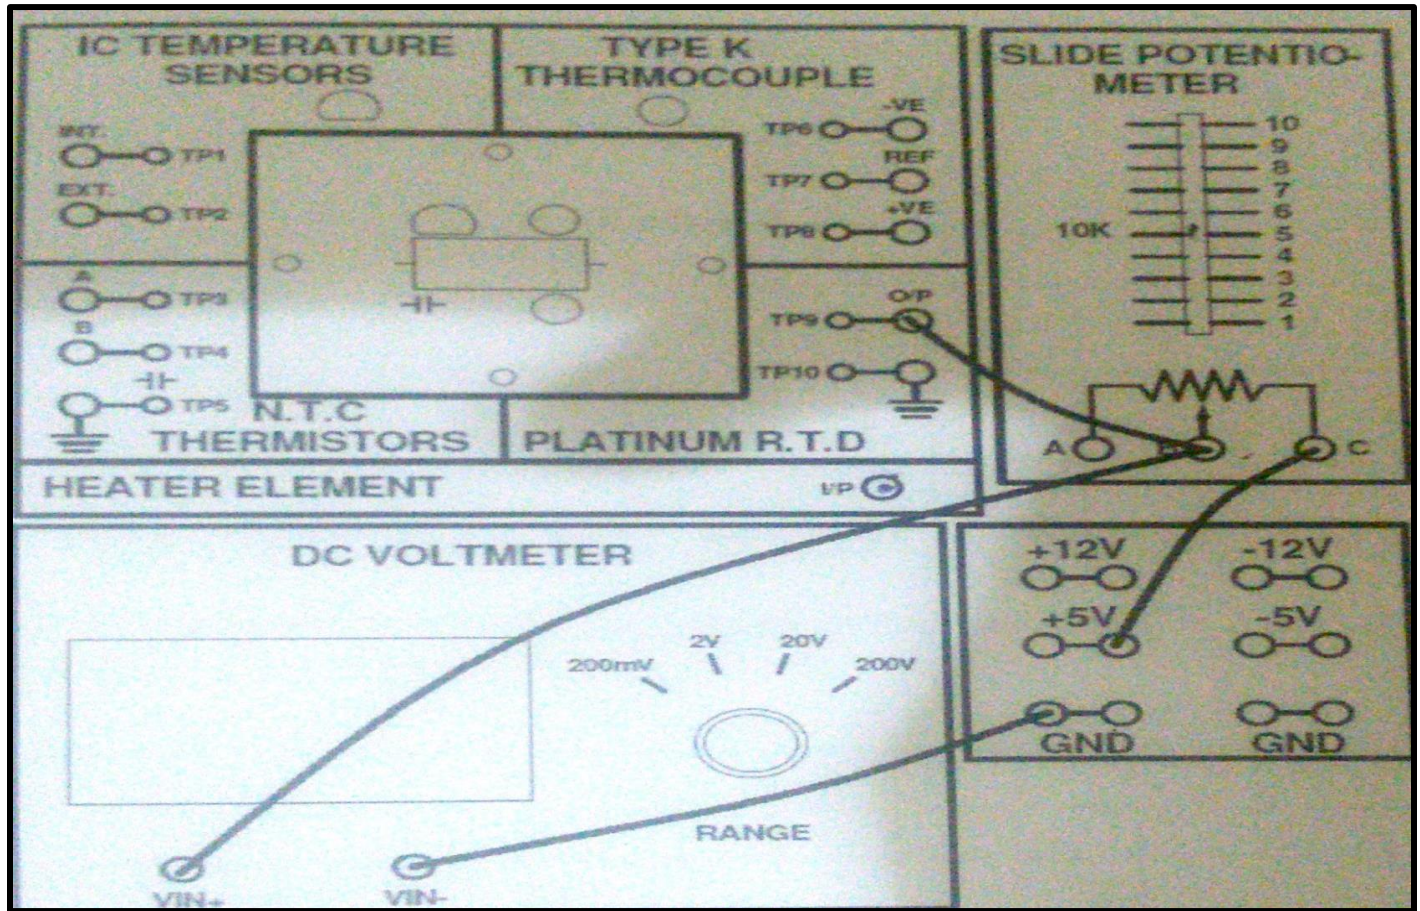

Figure 5.3 (Experimental Setup)
- Connect the circuit as shown in Figure 5.3, with the voltmeter set to its 2 V or 200mV DC range. Also, set the slider of the 10K Ω carbon resistor to mid-way.